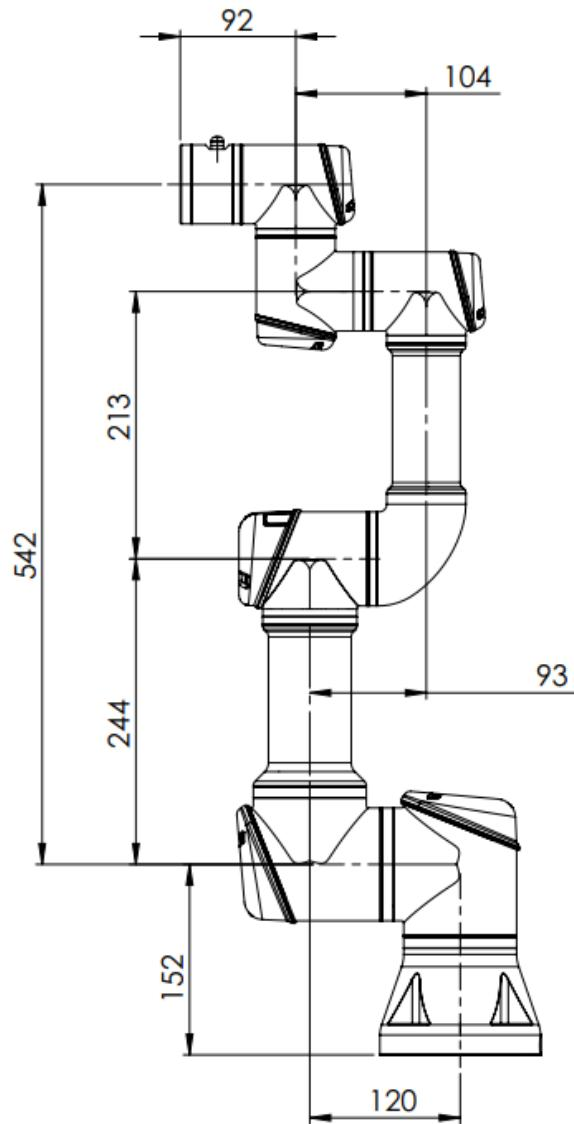

Figure 4.5: Approximate Dimensions of the UR3e in mm. *EACH UR3e IS SLIGHTLY DIFFERENT DUE TO ITS MANUFACTURE TOLERANCE.
- Figure 4.5 shows the dimensions of all of the links of the UR3e.